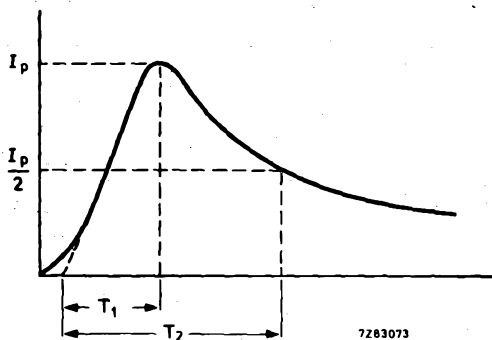
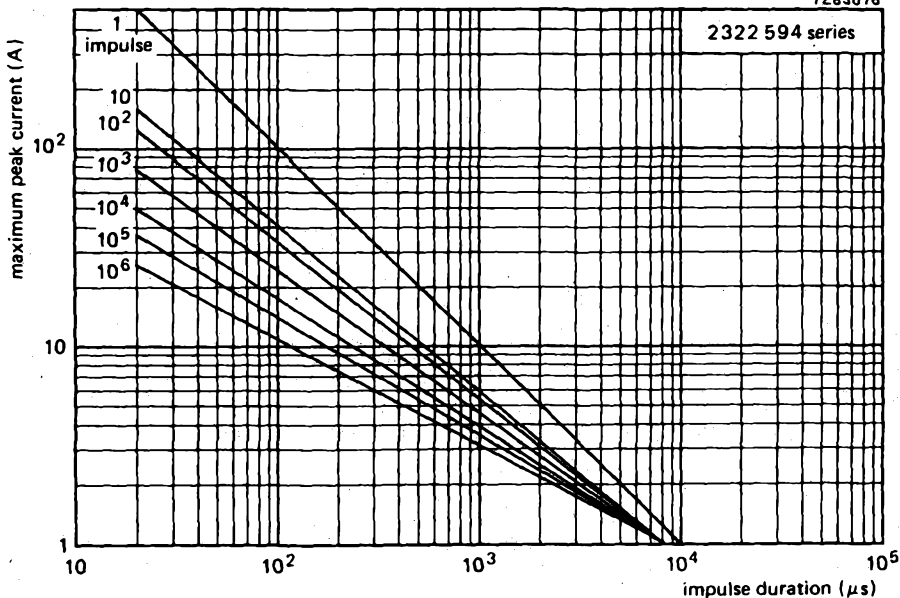

Fig. 4
Fig. 5 Max. applicable transient current as a function of impulse duration.
* This current is determined by the width T_2 (see Fig.4) and the number of impulses expected during the life of the component. Fig.5 gives the derating for different numbers of impulses. Resulting energy can be calculated with the equation: $E = K \cdot V_p \cdot I_p \cdot T_2$.
4. High energy surges are generally of longer duration. The max. energy for 1 impulse 10 / 1000 μ s is given as a reference for long duration impulses. This impulse can be characterized by peak current I_p and impulse width T_2 (virtual time to half I_p value following IEC 60-2 section six), see Fig. 4. If V_p is the clamping voltage corresponding to I_p , the energy absorbed in the VDR is determined by equation $E = K \cdot V_p \cdot I_p \cdot T_2$; K depends on T_1 is 8 to 10 μ s: for $T_2 = 20 \mu$ s K = 1; for 50 μ s 1,2; for 100 μ s 1,3; for 1000 μ s 1,4.